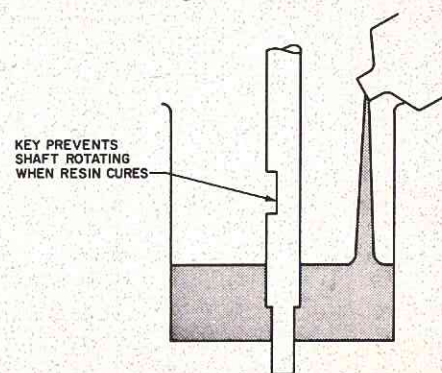

FIGURE 4
d) Support the chucking shaft so that it is centralized in the can with its narrow end poking out ½" or so. Mix enough glass fiber resin to fill the container, pour in and allow to cure. See Fig. 4.